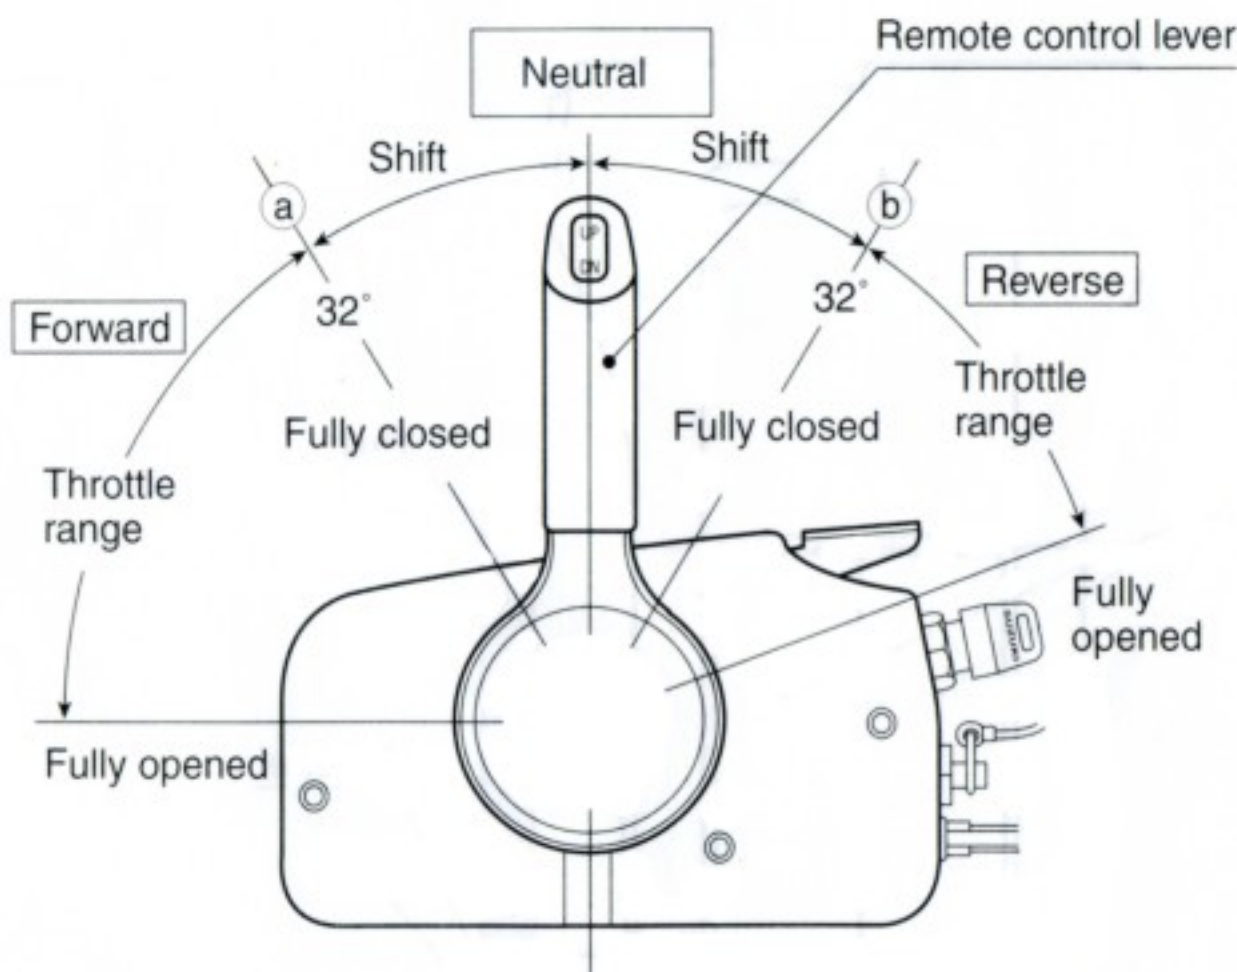

Fig. 19
- While turning the propeller, move the remote control lever from Neutral toward Forward and Reverse. The lever feels detent with a click sound at Forward ① and at Reverse ② positions, each at approximately 32 degrees. In these positions, check that the clutch is engaged and the throttle is completely closed. Move the remote control lever further and check that the engine throttle starts to open and reaches the full open position as the lever stops at the maximum position. (See Fig. 19.)
- Then, return the remote control lever from the full open throttle position toward Neutral direction and stop the lever when it feels detent with a click sound at positions ① and ②. At these positions, check that the engine throttle is completely closed.